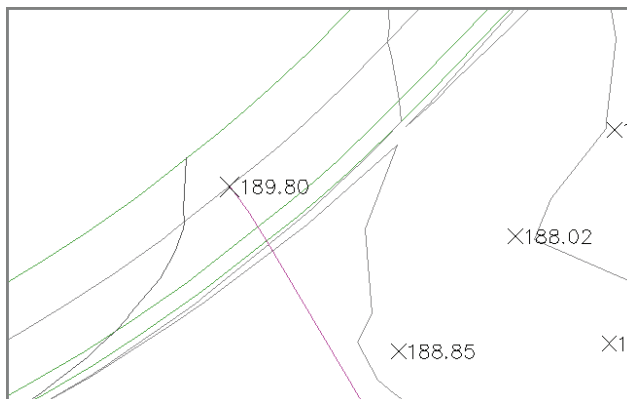

FIGURE 4.18 Spot elevation label showing 189.80' (57.85 m) added where the new road meets the existing road
5. Click **Add**. Snap to the northern endpoint of the magenta centerline. A label is placed at the location you selected (see Figure 4.18).